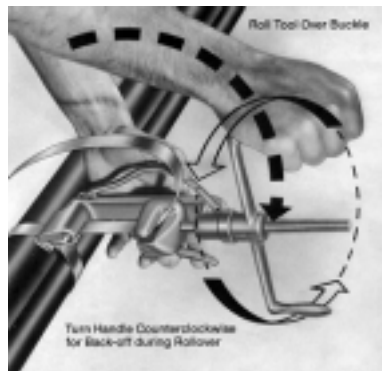

Fig. 2.13. Rolling tool
- Roll tool over buckle, backing off with tension handle throughout entire rolling operation (Fig. 2.13.). Failure to back off with tension handle throughout entire course of roll may result in breaking of band. There is no loss of tension as band released is used up in the bend.